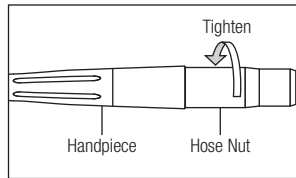

Fig. 3
**X450M4 / X450 5H****(1) Connecting**
- 1) Insert the handpiece correctly into the hose connector and tighten the hose nut.(Fig. 3)